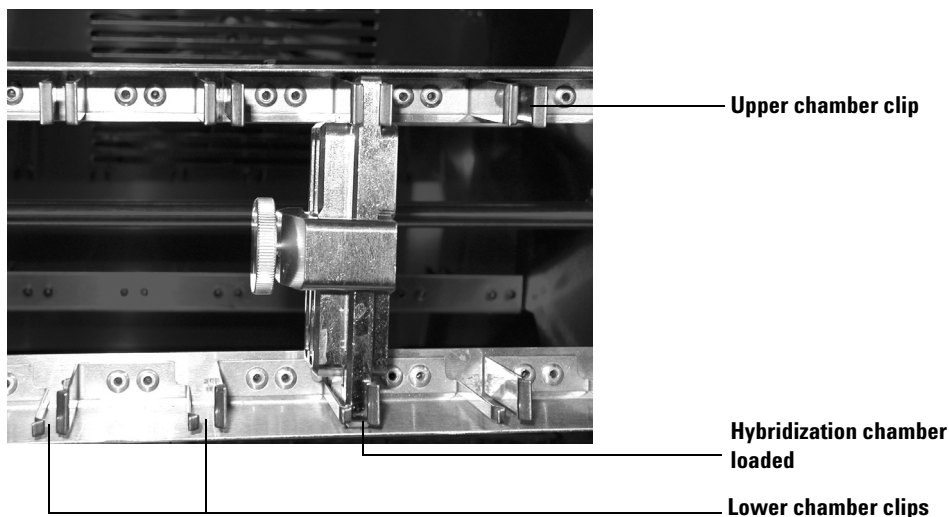

Figure 7 Correct loading of Hybridization chamber
- 3 Load or unload the hybridization chambers. To load the chambers into the rotator, press the chamber into the upper and lower clips until locked in place. See Figure 7.